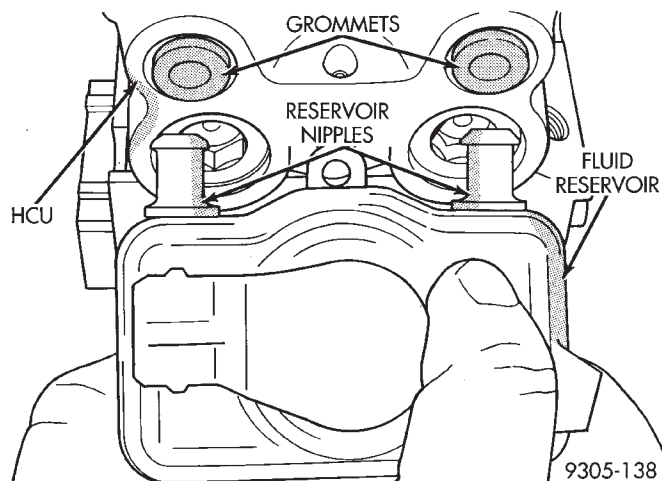

Fig. 4 Installing (HCU) Fluid Reservoir
(1) Lubricate the (HCU) grommets and reservoir nipples with fresh clean brake fluid (Fig. 4).